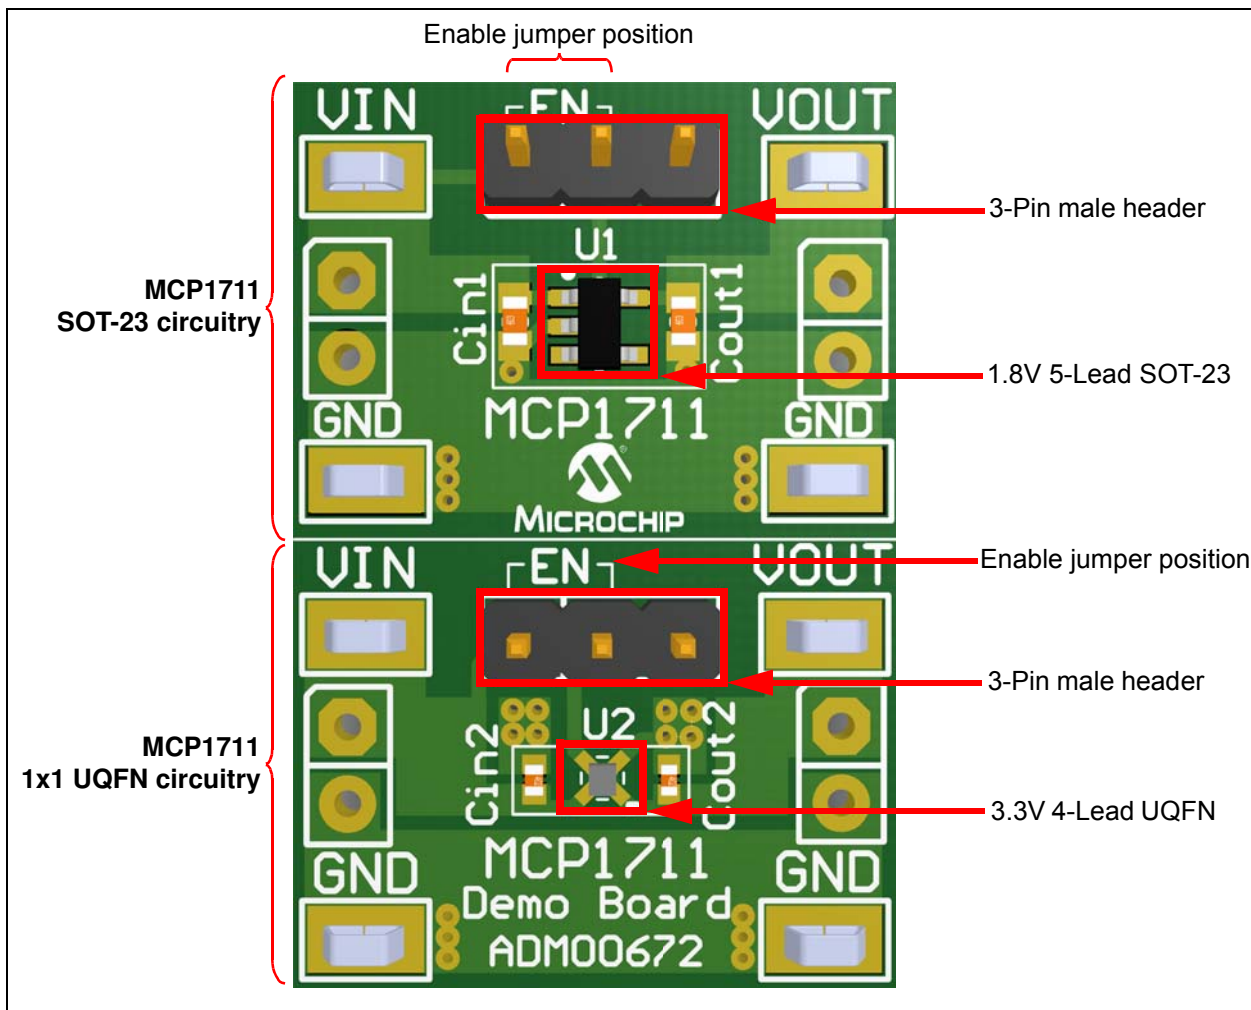

FIGURE 1-2: MCP1711 Demo Board - 3D Top View.
2. If the EN jumper is connected as indicated in Figure 1-2 in Chapter 1. "Product Overview", the output voltage of MCP1711 will start to rise and it will stabilize after some time, depending on the output current.